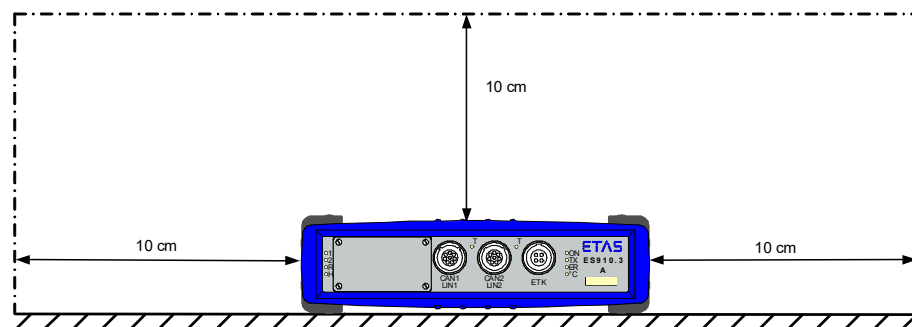

Fig. 5-1 Free Space around the ES910.3-A
- Adhere to the minimum distances of at least 10 centimeters on the sides and above the module (see Fig. 5-1 on page 47).